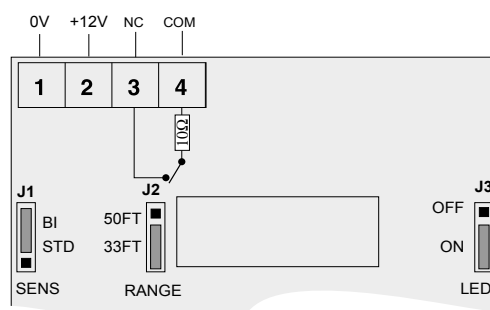

Figure 7. Wiring and Jumpers
9. Strip 1/4 inch (0.6cm) of insulation from each wire. Insert each wire into the appropriate terminal and tighten screws. See Figure 7.
10. Set the sensitivity, range and LED jumpers for the application desired. See Figure 7 and *Setting the Sensitivity, Range and LED*.
The unit provides three jumpers to set sensitivity (J1), range (J2) and LED (J3). See Figure 7.